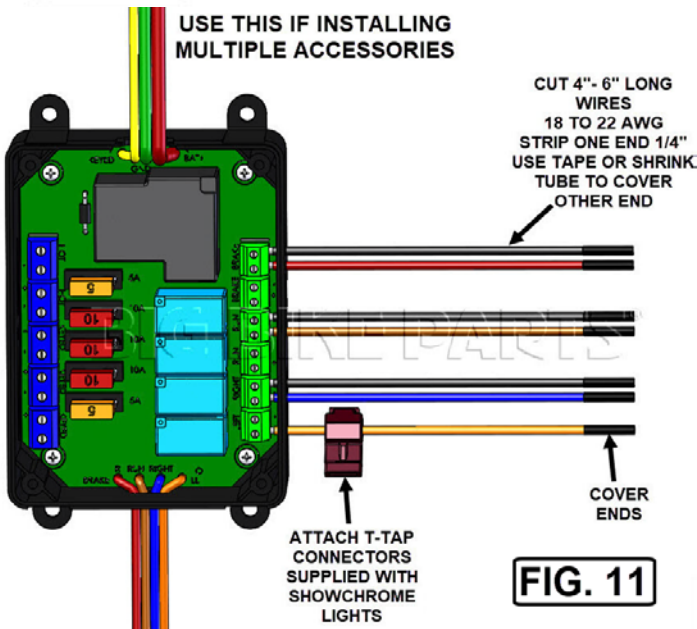

FIG. 11
32. IF INSTALLING OR PLANNING ON MULTIPLE ACCESSORIES USE METHOD SHOWN IN **FIG. 11** FOR A CLEAN AND SAFE INSTALLATION.